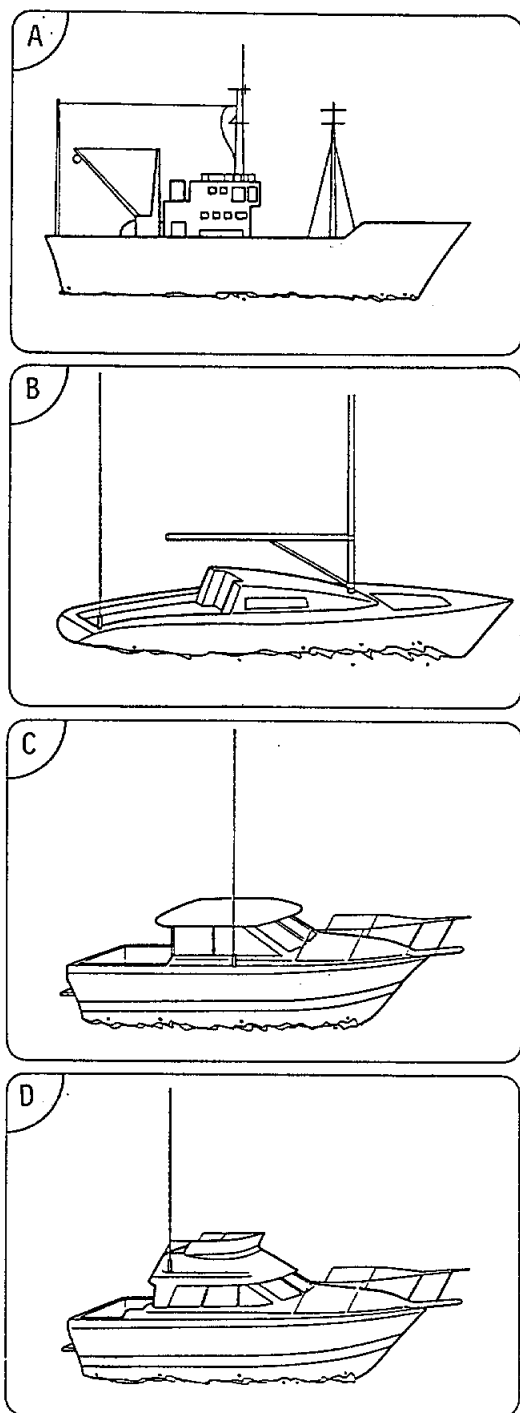

Fig. 5.2
Fig. 5.2 (A) shows an example of shipboard installation using a horizontal wire antenna. The length of the horizontal part should be between 6 and 12 meters. And the length of the vertical part (feeder) should be no less than 4m; the longer the better for effective transmission.